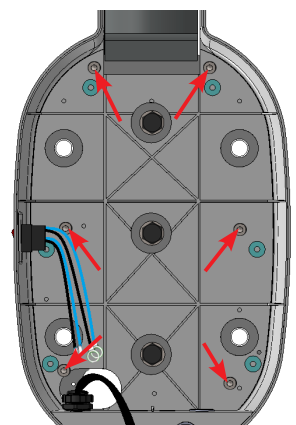

Figure 89
- Remove the old base unit rear cover by removing 6 M3x6 HSHC screws and M3 plane washers at the locations shown in Figure 89 using 2.5mm allen key.
- Fix the new base unit rear cover by fixing 6 M3x6 HSHC screws at the locations shown in Figure 89 using 2.5 mm allen key.